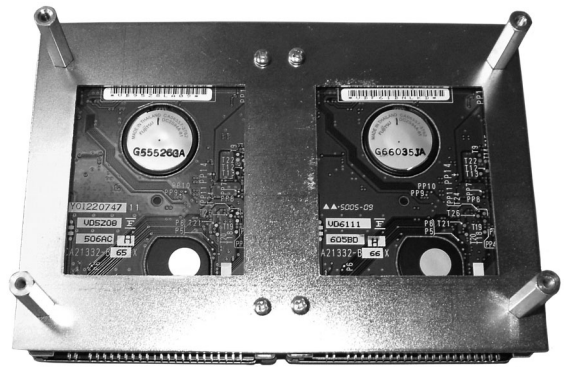

Fig. MM-4
- Screw the remaining standoffs through the drive mounting plate into the top-left and bottom-left threaded holes with the spacers. When you're done, the hard drive subassembly should look like **Fig. MM-4**.